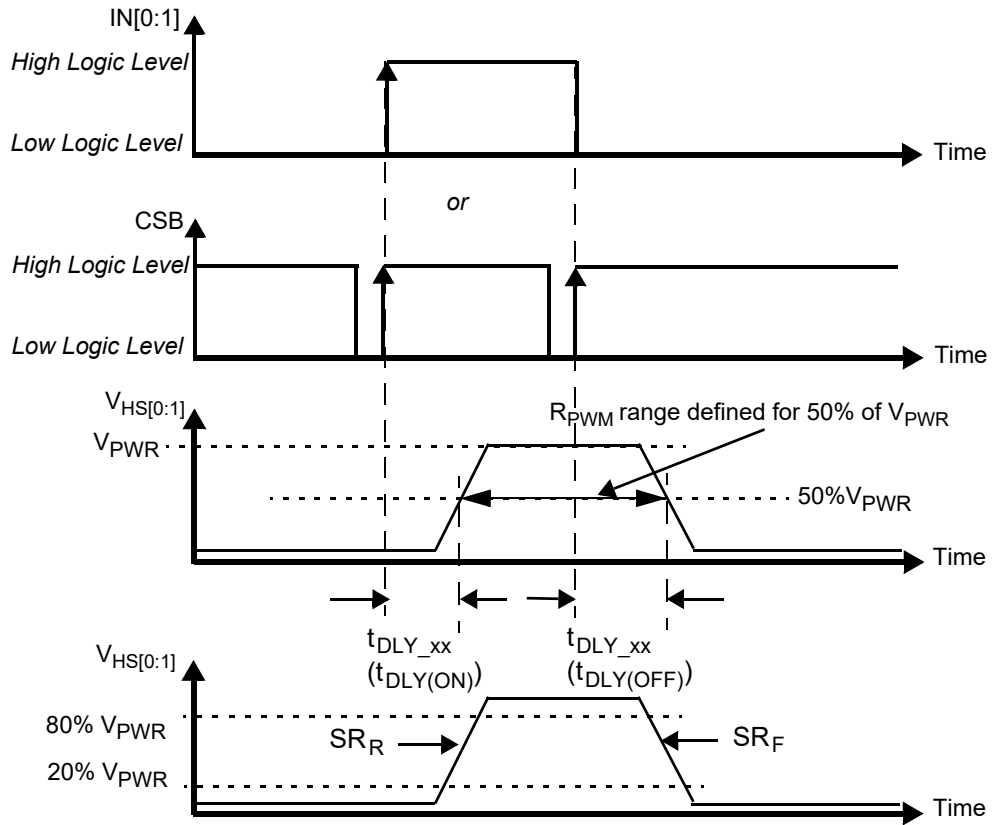
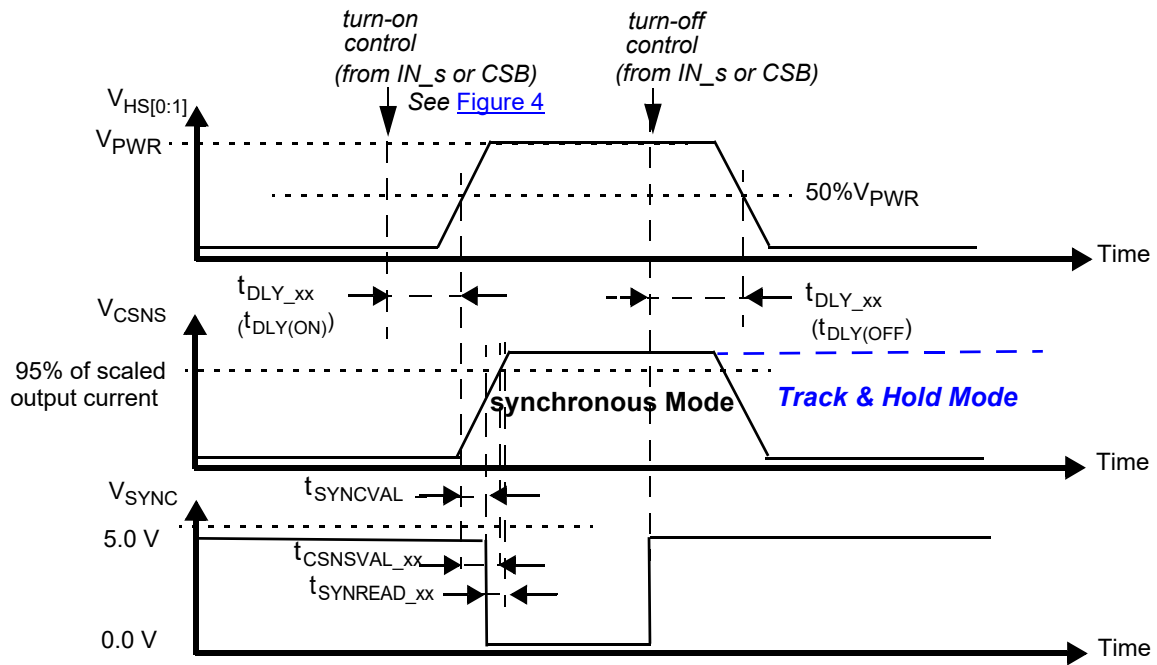

Figure 4. Output voltage slew rate and delay
Figure 9. Synchronous and Track & Hold current sensing modes: associated delay and settling times
31. Rising and Falling edge slew rates specified for a 20 to 80% voltage variation on a  $10\ \Omega$  resistive load (see Figure 4).
33. Time required to switch off the channel after detection of overtemperature (OT), overcurrent (OC), SC or UV error (time measured between start of the negative edge on the FSB pin and the falling edge on the output voltage until  $V(\text{HS}[0:1]) = 50\%$  of  $V_{PWR}$ ).
34. Settling time ( $= t_{\text{CSNSVAL\_xx}}$ ), SYNC output signal delay ( $= t_{\text{SYNCVAL\_xx}}$ ) and Read-out delay ( $= t_{\text{SYNREAD\_xx}}$ ) are defined for a stepped load current ( $100\text{ mA} < I(\text{LOAD}) < \text{IOCLX A FOR CSNS\_RATIO\_S} = 1$ , AND  $300\text{ mA} < I(\text{LOAD}) < \text{IOCLX A}_0$  FOR  $\text{CSNS\_RATIO\_S} = 0$ ). (see Figure 9 and Output current monitoring \(CSNS\))
- Settling time ( $= t_{\text{CSNSVAL\_xx}}$ ), SYNC output signal delay ( $= t_{\text{SYNCVAL\_xx}}$ ) and Read-out delay ( $= t_{\text{SYNREAD\_xx}}$ ) are defined for a stepped load current ( $100\text{ mA} < I(\text{LOAD}) < I_{\text{OCLX A FOR CSNS\_RATIO\_S}} = 1$ , AND  $300\text{ mA} < I(\text{LOAD}) < I_{\text{OCLX A\_0 FOR CSNS\_RATIO\_S}} = 0$ ). (see Figure 9 and Output current monitoring \(CSNS\))
The CS pin allows independent current monitoring of channel 0 or channel 1 up to the steady-state overcurrent threshold. It can also be used to sense the device temperature. The different functions are selected by setting bits CSNS1\_en and CSNS0\_en to the appropriate value (Table 23). When the CSNS pin is sensed during switch-off in the (optional) track & hold mode (see Figure 9), it outputs the scaled value of the load current as it was just before turn-Off. When several devices share the same pull-down resistor, the CSNS pins of devices, the current of which is not monitored, must be tri-stated. This is accomplished by setting CSNS0\_en = 0 and CSNS1\_en = 0 in their GCR register (Table 12). Settling time ( $t_{CSNSVAL\_XX}$ ) is defined as the time between the instant at the middle of the output voltage’s rising edge ( $HS[0:1] = 50\%$  of  $V_{PWR}$ ), and the instant at which the voltage on the CSNS pin has settled to  $\pm 5.0\%$  of its final value. Anytime an overcurrent window is active, the CSNS pin is disabled (see Overcurrent detection on resistive and inductive loads). The current and temperature sensing functions are unavailable in Fail-safe mode and in Normal mode when operating without the  $V_{DD}$  supply voltage. In order to generate a voltage output, this pin requires a pull-down resistor ( $R(CSNS)=1.0\text{ k}\Omega$  typ. and  $470 < R(CSNS) < 10\text{ k}$ ). When the current sense resistor connected to the CSNS pin is disconnected, the CSNS voltage is clamped to  $V_{CL(CSNS)}$ . The CSNS pin can source currents up to about 5.6 mA.
To synchronize current sensing with an external process, the SYNC signal can be connected to a digital input of an external MCU. An open-drain pull-down on SYNC indicates that the current sense signal is accurate and ready to be read. The current sense signal on the CSNS pin has the specified accuracy  $t_{SYNCREAD\_XX}$  seconds after the falling edge on the SYNC pin (Figure 9) and remains valid until a rising edge is generated. The rising edge that is generated by the SYNC pin at the turn-OFF instant (internal or external) may also be used to implement synchronization with the external MCU. Parameter  $t_{SYNCVAL\_XX}$  is defined as the time between the instant at the middle of the output voltage rising edge ( $HS[0:1] = 50\%$  of  $V_{PWR}$ ), and the instant at which the voltage on the SYNC-pin drops below 0.4 V ( $V_{SOL}$ ). The SYNC pins of different devices can be connected together to save micro-controller input channels. However, in this configuration, the CSNS of only one device should be active at a time. Otherwise, the MCU is not be able to determine the source of the SYNC signal. The SYNC pin requires an external pull-up resistor to  $V_{DD}$ .